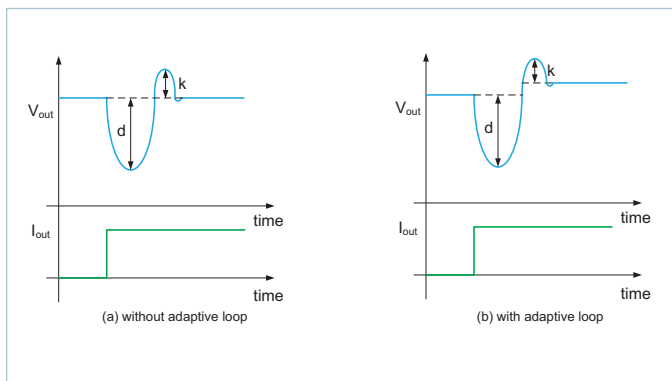

Figure 38 — Load step response example and "droop" vs. "kick"
Figure 38 illustrates an example of a load step response. Equation (11) can be used to predict the phase margin based on the ratio of the "kick" to "droop" (as defined in Fig. 38).